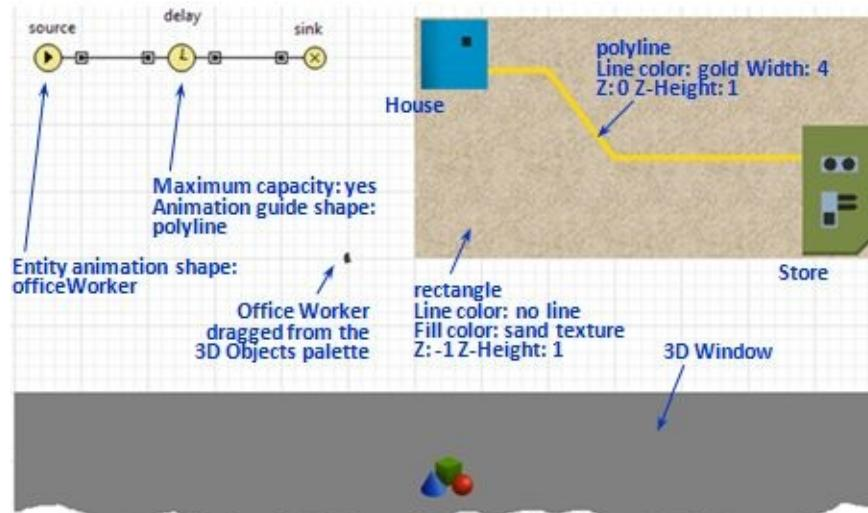

Figure 14.3 The "source code" of a simple model with 3D animation
2. Put together a simple flowchart as shown in Figure 14.3. Select **Maximum capacity** for the *delay* object, and leave all other parameters as is.
3. Open the **3D** palette and use it to draw a background rectangle and a polyline as shown in Figure 14.3. The shapes dragged from that palette differ from the same shapes from the **Presentation** palette only in that they have the property **Show in 3D scene** selected by default.